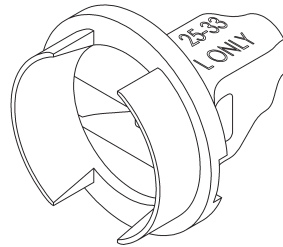

Figure 4: Mitral Rotator
**Mitral Rotator** – The mitral rotator (Figure 4) is used for reorienting an in situ valve in the mitral position only. The mitral rotator is distinguishable from the valve rotator by its shorter body and lack of a leaflet probe.